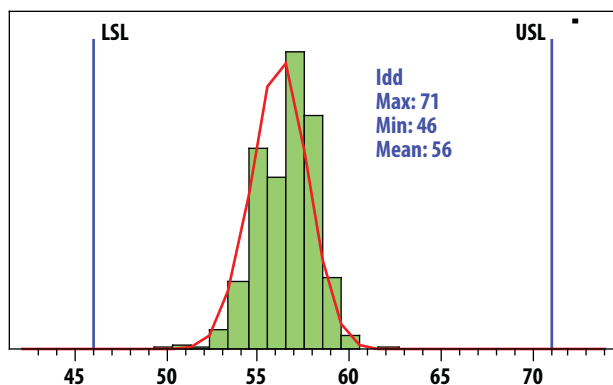

Figure 1. Idd @ 2.5GHz, 5V, 56mA Mean = 56
RF performance at $T_A = 25^\circ\text{C}$, $V_{dd} = 5\text{V}$, $R_{bias} = 3.6\text{ k}\Omega$, 2.5 GHz , measured on demo board in Figure 1 with component listed in Table 1 for 2.5 GHz matching.
1. Measurements at 2.5 GHz obtained using demo board described in Figure 1.